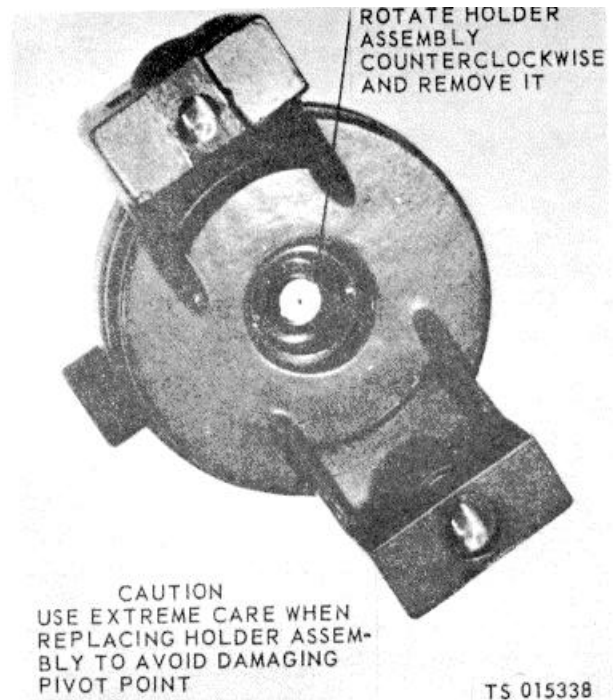

Figure 5-5. Compass holder (pivot) assembly, removal and installation.
b. Removal. Refer to figure 5-5 and remove holder assembly.